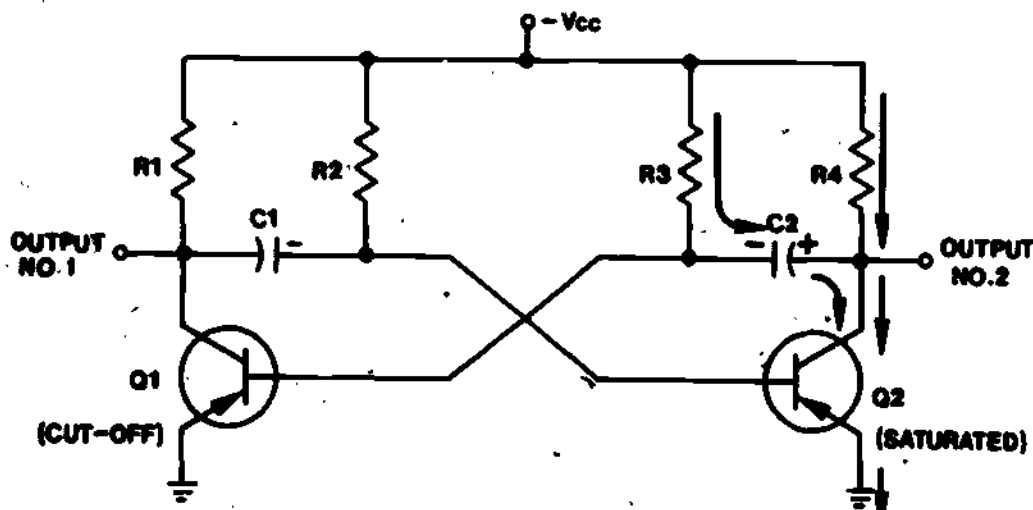

Figure 5
5. Essentially all the current in the system now flows through Q2. See Figure 5.